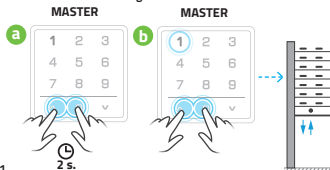

Fig. 10.1
1. Activate the screen with your finger touching on the surface of the field for about 1 sec. and select the channel (only one) you want to program for the receiver - Fig. 10.1.